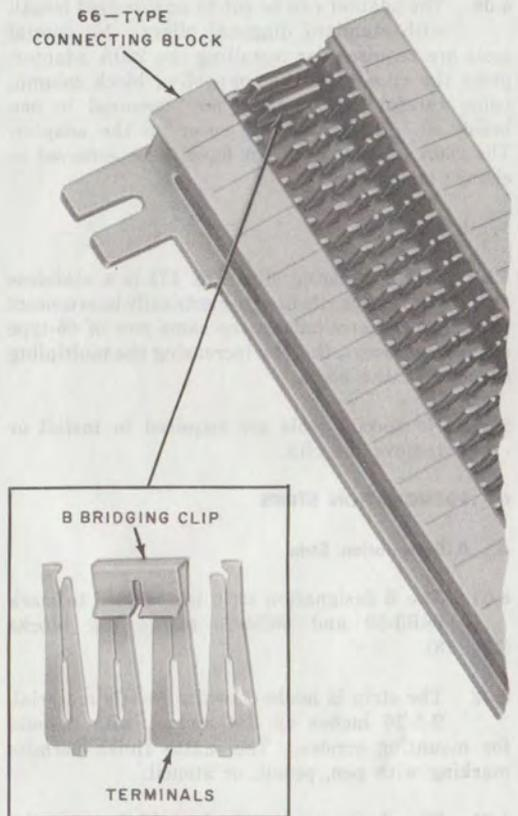

Fig. 17—B Bridging Clip, Installation Detail
5.01 The B bridging clip (Fig. 17) is a stainless steel spring clip used to electrically interconnect two adjacent terminals in the same row of 66-type connecting blocks, thereby increasing the multiplying capacity of the block.